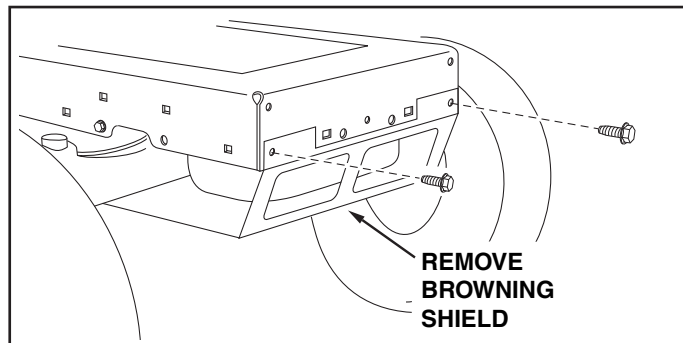

FIGURE 2
### STEP 1: (SEE FIGURE 2)
- Fasten the R.H. Side Plate (bend facing out) to the front three holes in the tractor frame using three 3/8" x 1" carriage bolts (H), three large 1/2" washers (M) (see note) and three 3/8" nylock nuts (L). For the rear hole, use a 5/16" x 1" carriage bolt (F), a large 1/2" washer (M) and a 5/16" nylock nut (K). Place the washers between the tractor frame and the side plate. Tighten all bolts. Repeat for L.H. side plate.
- Reinstall the browning shield removed in figure 2.
**NOTE:** If there is an engine mounting plate (shown with dotted lines) leave the large 1/2" washer (M) off the bolt that goes through the plate.